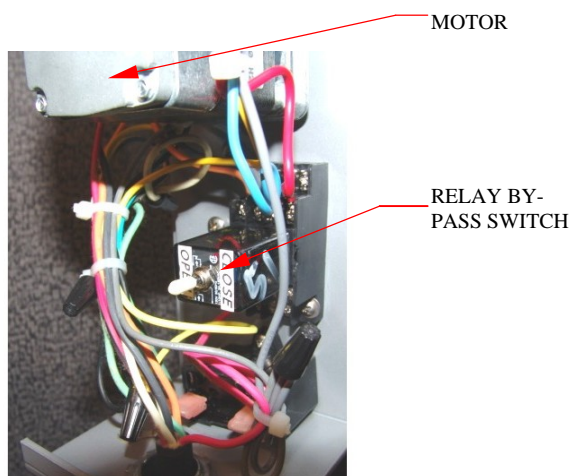

FIG. 4
- 4 Install directional control relay By-Pass switch into the relay socket. (FIG. 4)
- 6 Put the By-Pass switch (FIG. 4) in the neutral/center position.
- 17 Put the By-Pass switch in the neutral position, (FIG. 4)
- 29 Put the By-Pass switch in the neutral position, (FIG. 4)
- 37 With the By-Pass switch in the neutral position, loosen the Lower-Limit switch locking screws (FIG. 4)